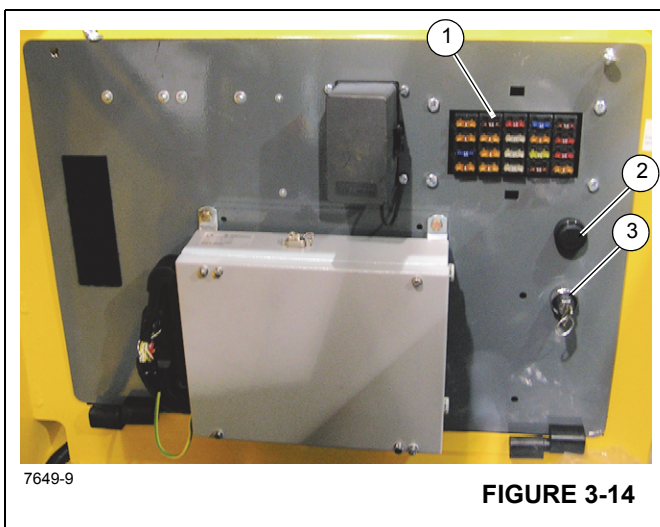

FIGURE 3-14
The telescope cylinder charge system operates automatically and does not require any operator input. The indicator illuminates amber and the buzzer sounds (2), (Figure 3-14) when the boom is elevated above 35° and the telescope cylinder charge system is not functioning properly. If the buzzer sounds and the indicator illuminates, the operator should immediately telescope out slightly to manually charge the telescope cylinders, stop operation, then have the system repaired as necessary.
The Fuse Panel (1) (Figure 3-14) is located behind the cab seat and on the cab fuse and relay panel assembly. It contains up to 20 fuses that protect the various electrical components of the crane.
The RCL emergency override switch (3, Figure 3-14) is a key operated switch that is located inside the operator cab on the panel assembly behind the seat. When actuated (turned clockwise), the switch will override and prevent the RCL from locking out the three craning functions (boom down, telescope extend, and hoist up) should an overload or two-block condition occur.